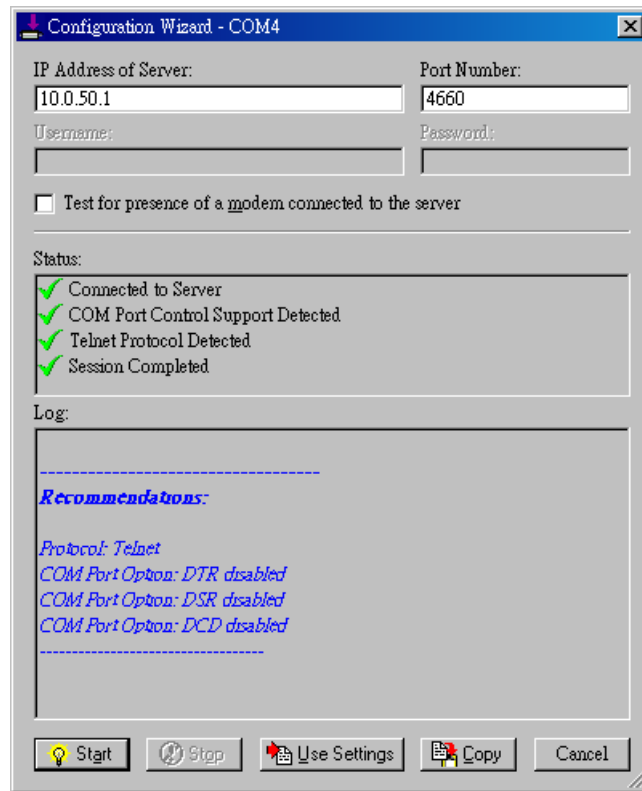

Fig. 38. Configuration Wizard
Serial/IP COM port can be changed as follows:(Fig. 38)
5. Click the **Configuration Wizard** button and then click the **Start** button that shall appear on the wizard window. This step verifies that the Virtual COM Redirector communicates with the serial server. If **Log** display does not show errors, click **Use Settings**, return to the Control Panel (Fig. 38)